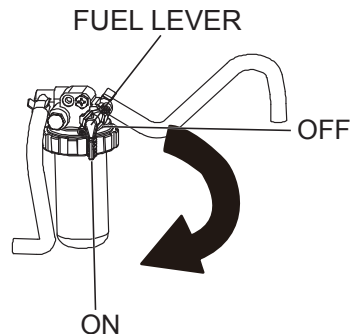

Figure 14. Fuel Lever (ON)
1. Open the rear cover of the cart. Set the fuel lever to the ON position (Figure 14).